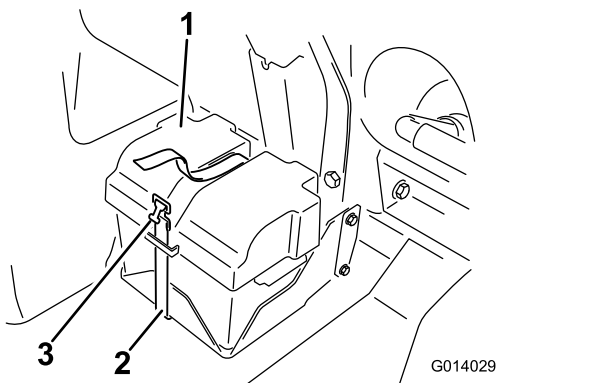

Figure 60
3. install the battery cover and secure it with the strap removed previously (Figure 60).